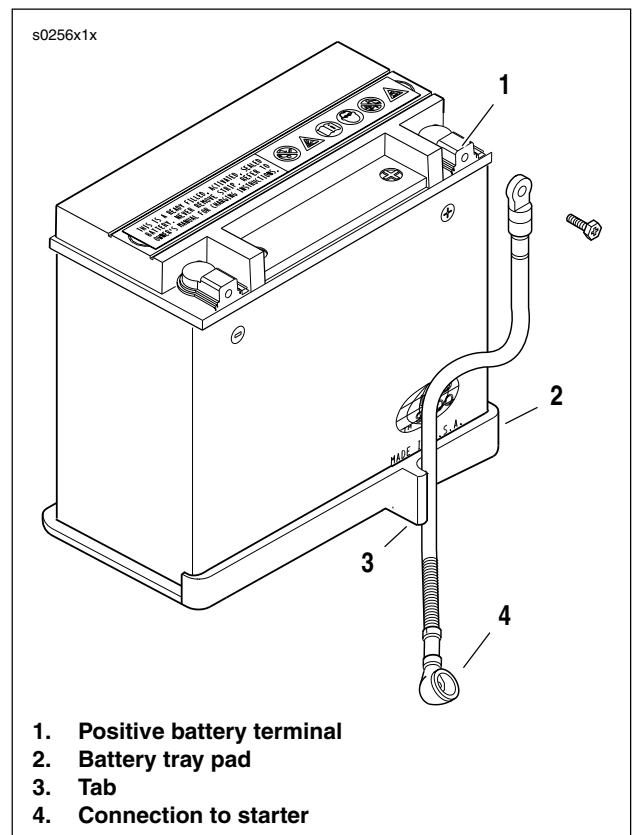

Figure 1-9. Positive Battery Cable Routing
1. See Figure 1-9. Verify that the positive battery cable from the starter (4) is routed next to tab (3) on the battery tray pad (2). Place the fully charged battery into the battery pad, terminal side facing front wheel.